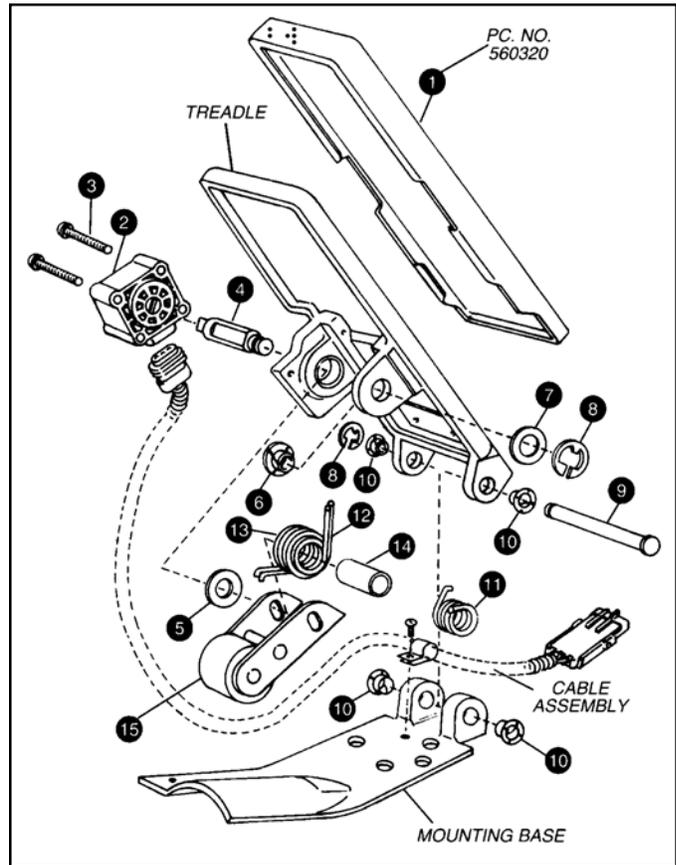

FIGURE 4 - EXPLODED VIEW
1. Securely clamp the treadle Mounting Plate (6).
2. **For Caterpillar Potentiometers:** Aligning the drive slot, the Potentiometer (1) engages the drive tang at the end of the Cam Follower Drive Shaft (see Figure 4). Rotate the Potentiometer clockwise until the first set of mounting holes align. Secure using two screws (2): torque to 20 (± 2) in. lbs.
The following instructions present a major disassembly of the ET-2™ treadle. They are included for reference only. Several replacement parts and maintenance kits that do not require full disassembly are available. The instructions provided with those items should be followed in lieu of the steps presented here. Refer to Figure 4 throughout the procedures.
Refer to Figure 4 throughout the assembly procedure.
1. Install the four nyliner bearings (10) on the mounting base and treadle.
3. Install the pivot spring (11) into the base and treadle. The curved end of the spring fits into a small hole in the treadle, and the straight end fits into a small hole in the mounting base.
4. The pivot pin (9) should slide through the holes in the "ears" of the treadle and base assembly, then through the center of the spring. Secure the pin with its snap ring (8). Make sure the pivot spring is straight and is seated in its holes.
6. Place the spring support (14) inside the caged spring assembly. Then insert the springs into the roller assembly (15). The curved ends of the springs fit over the small bar directly behind the roller.
7. In order to install the lever shaft (4), the roller assembly, with its springs and spring support, and the washers (5 & 7) must be aligned. This can be done by resting the ET-2™ treadle on its side, with the smaller ear of the treadle facing up. Insert the washers as shown in Figure 4. Washer (5) has the larger diameter (.520"). While holding the roller assembly in place, push the lever shaft through the treadle ears.
8. With the ET-2™ treadle on its side, as mentioned above, the lever shaft should protrude from the treadle with its snap ring groove visible. Secure the lever shaft with its snap ring (8).
9. Turn the ET-2™ treadle upright. Place the potentiometer (2) in the position shown in Figure 4, with its connector facing the rear of ET-2™ treadle. Secure the potentiometer with its screws (3). Torque to 20 inch pounds (+/-5).
10. Install the treadle cover (1) and cable assembly as shown in Figure 4. Clip the wire from the spring assembly so that the straight end of the springs rest against the underside of the treadle.